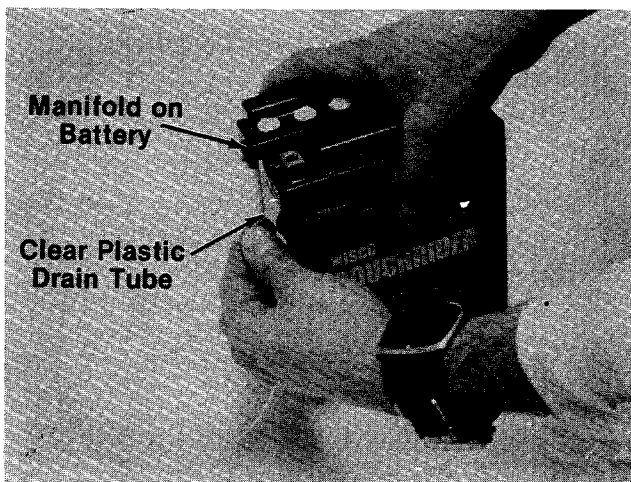

FIGURE 3.
- 3. Place one end of clear plastic drain tube on manifold of battery. See figure 3.